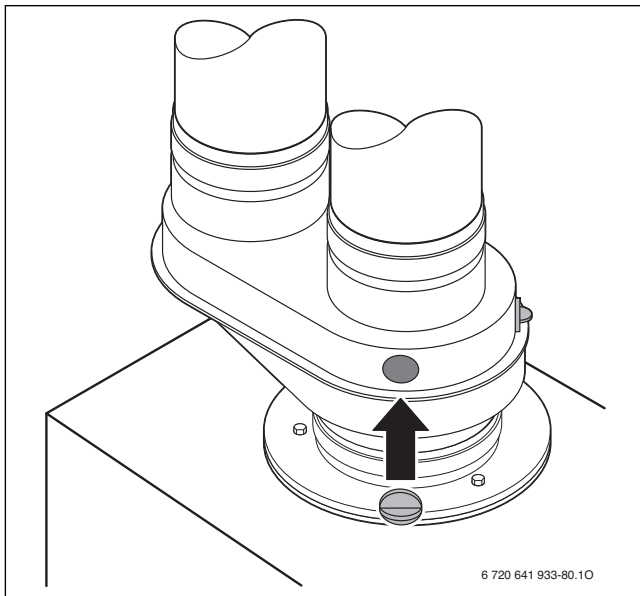

Fig. 75 Close flue gas test ports
- ▶ Remove flue gas probe and close the flue gas test port properly (→ Fig. 75).